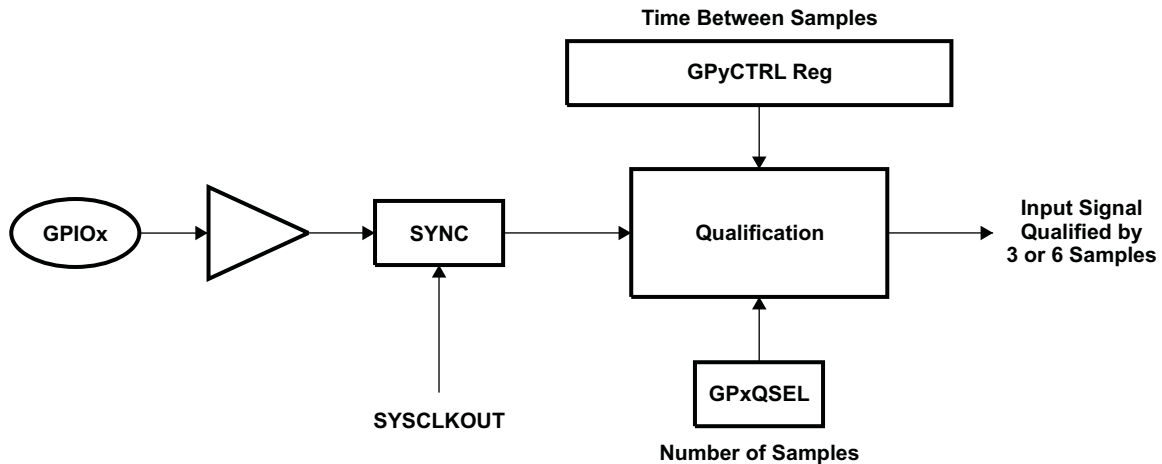

Figure 6-19. Qualification Using Sampling Window
- The sampling period is specified by the QUALPRD bits in the GPxCTRL register and is configurable in groups of 8 signals. It specifies a multiple of SYSCLKOUT cycles for sampling the input signal. The sampling window is either 3-samples or 6-samples wide and the output is only changed when all samples are the same (all 0s or all 1s) as shown in Figure 6-19 (for 6-sample mode).